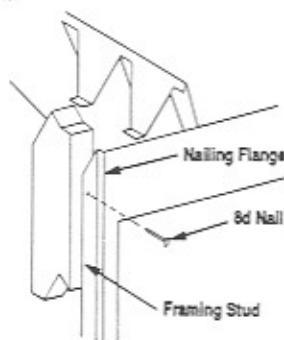

Figure 9
Step 5. Fireplace should be secured to side framing members using nailing flanges. Use 8d nails (Figure 9).